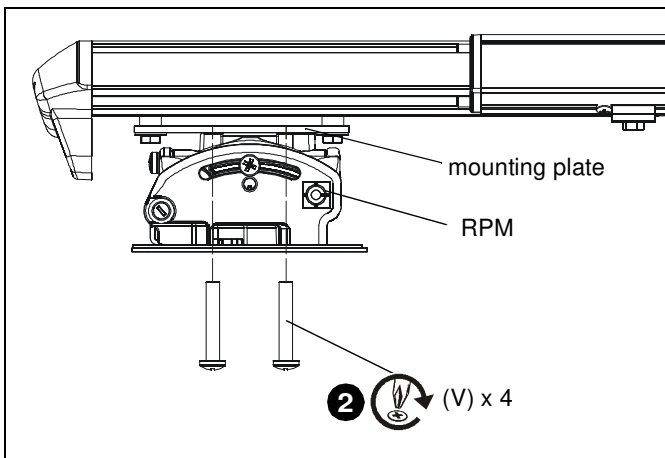

Figure 15
2. Install four 1/4-20 x 1-1/2" Phillips pan machine screws (V) through RPM holes and into projector mounting plate. (See Figure 15)